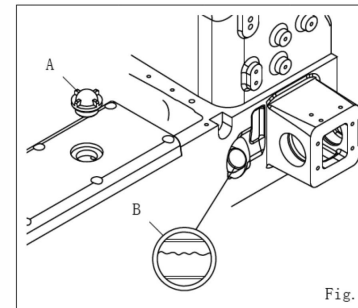

Fig. 3
2. 在新机使用前请先注入润滑油。旋开顶盖上的喷油检视盖(A)，将油缓缓注入机器中，待油量满至油标指示窗(B)上下线之间即可(图3)。
2. Before operating the new machine, to remove Oil Sight Window (A) and fill the oil slowly until the oil level reaches between lines H and L of Oil Sight Gauge (B). (Fig. 3)